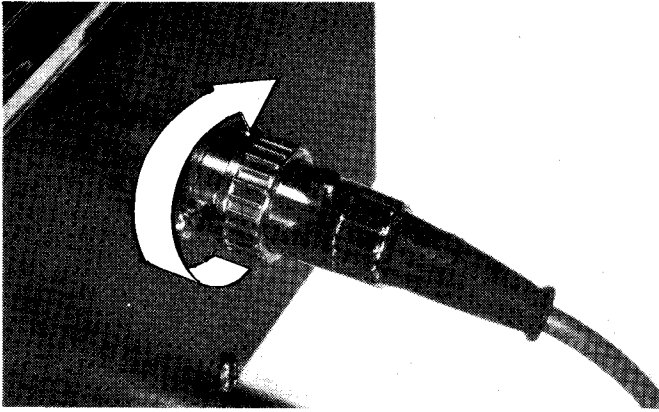

Figure 3
C. After inserting Cable Connector (7) into Case Connector (8), turn Locking Ring to Right as indicated in Figure 3.